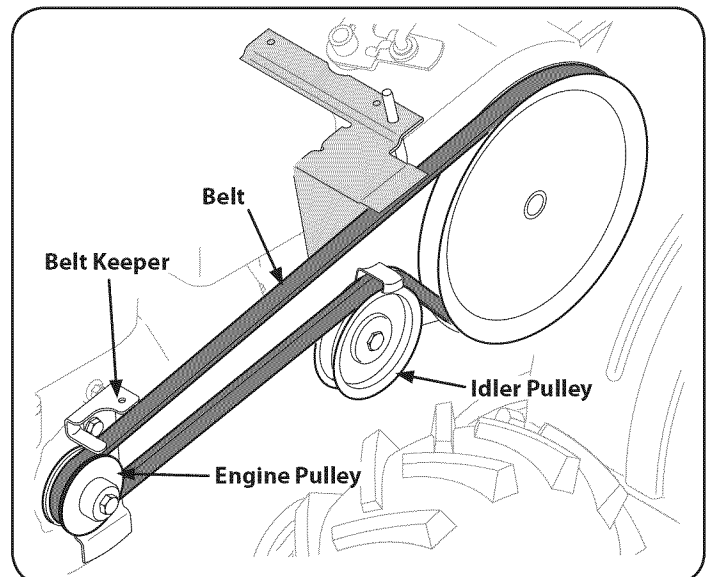

Figure 27
3. Remove the belt keeper assembly located behind the engine pulley by removing the two hex lock screws. See Figure 27.
4. Remove the idler pulley by removing the hex screw and jam lock nut securing it to the idler pulley bracket. See Figure 27.
5. Remove the old belt and install the new belt. Follow the instructions in reverse order to re-install the belt keeper and belt cover. See Figure 27.